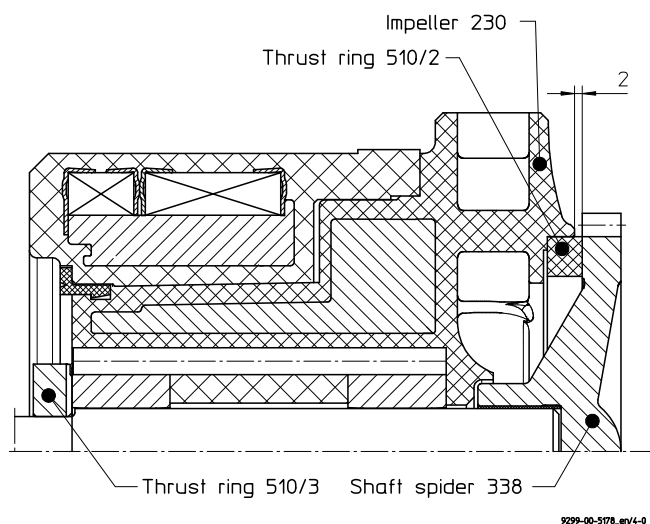

Fig. 8
- Check whether the thrust ring protrudes about 2 mm out of the impeller. See Fig. 8.